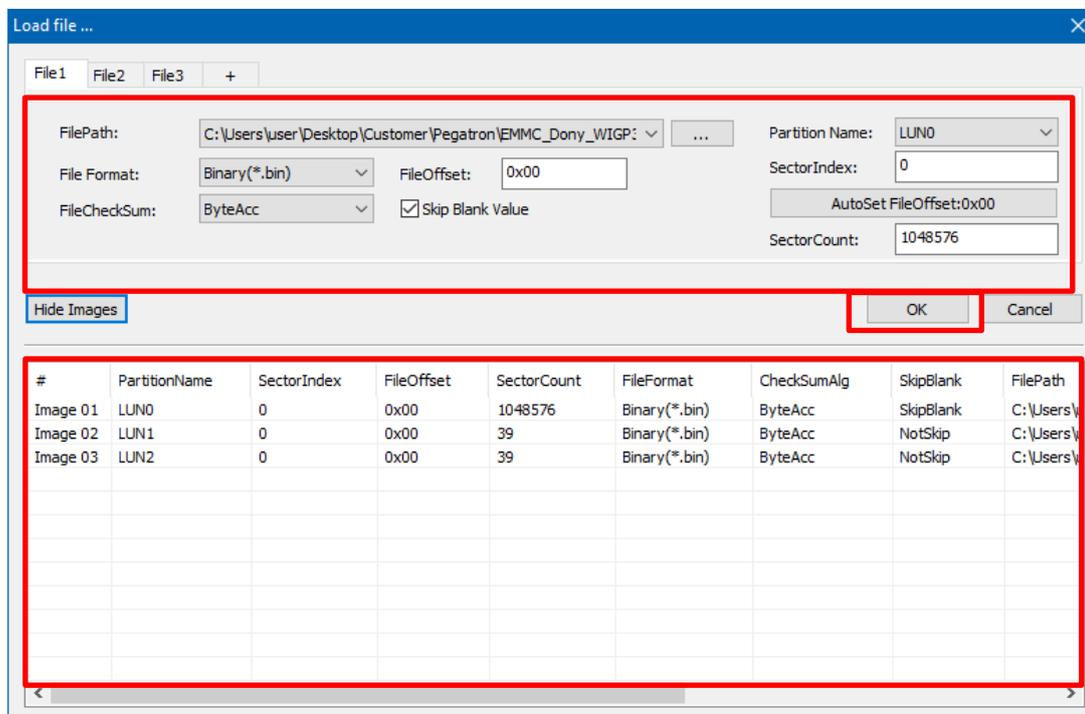

Fig. 5-35
Step 2. Load a programming file: load a programming file to each LUN partition separately (Fig. 5-35). Since LUN0 file is bigger and more dispersed, please select the **Skip Blank Value** to reduce the programming time.